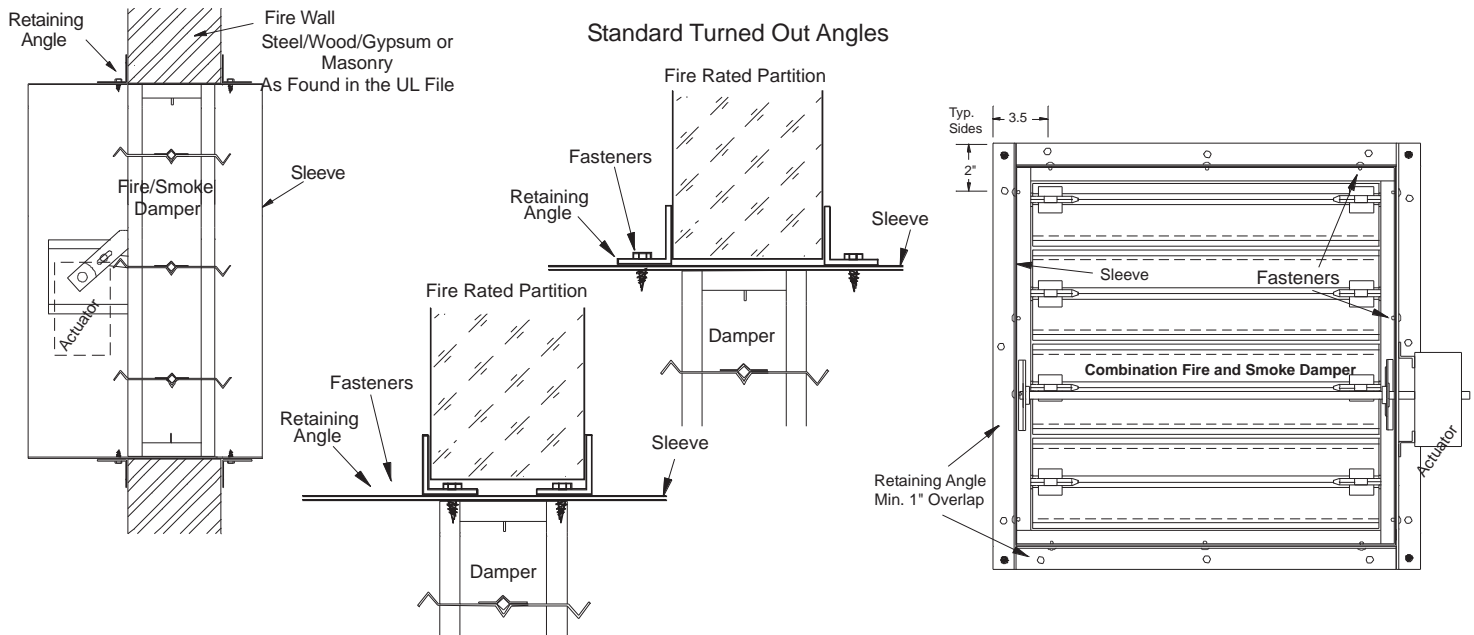

Fig. 8 -- One Angle (Single Sided) Method
b. One Angle (Single Sided) Method: In this method 1 set of angles are used to secure the damper in the opening. This method is approved for use in UL approved concrete/masonry partitions and steel stud/gypsum walls. Only one side of the fire partition will have the angles installed (see Fig. 8). One Angle Method is approved for 1½ hour dampers only, vertical and horizontal (angles on top side only) orientations, and the maximum size shall be 108" wide or 108" high up to 36 square feet and up to the maximum multi-section UL approved damper size (see Underwriter's Laboratories Listings for maximum assembly sizes). Angle shall be a minimum of 1½" x 1½" (37mmx37mm) by 16 gauge. Angles are to be fastened to the sleeve on 6" centers with #10 (M5) sheet metal screws, 3/16" (5mm) steel pop rivets, ½" (13mm) tack welds, or ¼" (6mm) diameter nut and bolts with not more than 2" (51mm) from each end with a minimum of two connections on each side/leg top and bottom. The angles are also to be fastened to the fire partition with: **in concrete/masonry partitions** with #10 (M5) self-tapping concrete anchors or concrete screws on 6" (152mm) centers and must engage the fire partition a minimum of 1½" (38mm); **in steel stud/gypsum partitions** secure the angles to the partition with #10 (M5) screws long enough to penetrate the J-Runners and E-Stud by a minimum of 3/8" (10mm). Use a minimum of two fasteners per side. The angles are to overlap the partition a minimum of 1" (25mm). These angles may be of a unit type construction and may or may not be fastened to each other at the corners. When the duct work terminates at the damper or installation prohibits angles from turning out/away from the wall, the retaining angle shall be reversed (leg turned into the opening) providing the size of the opening is increased by an amount equal to twice the combined thickness of the angle and the height of the screw or bolt head to maintain expansion clearances. Angles can be placed in front of or behind the drywall attaching directly to the steel studs or masonry. NCA's Frame Retaining Angles (FRA) can be used in place of the angle mentioned above. See note 1B for information on clearances. See Fig. 8 for detailed drawings of installations.